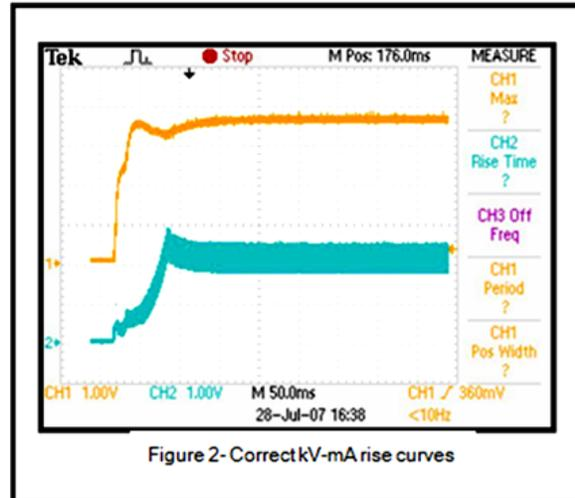

Figure 2- Correct kV-mA rise curves
- Do the waveforms appear as shown in Figure 2?